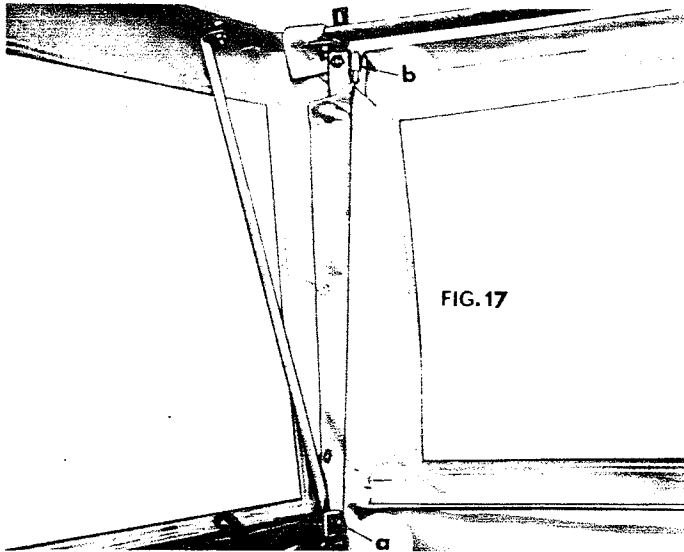

FIG. 17
1. Attach a DOOR to each FRONT POST by first inserting the rod on the DOOR into the bottom HINGE. Secure the middle door HINGE to the bolt at the outside end of the FRONT PANEL FRAME with a nut. Slide the top HINGE over the rod on the door and secure with a bolt and nut (b, Fig. 17).